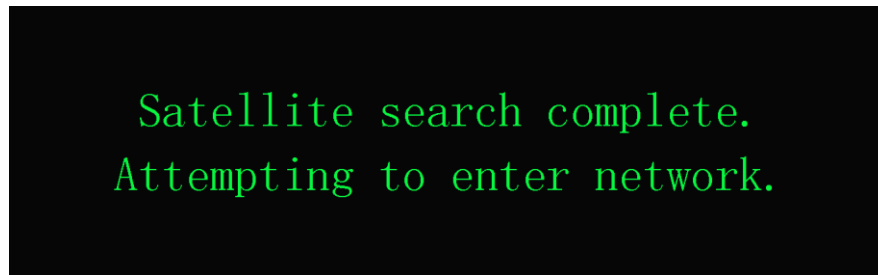
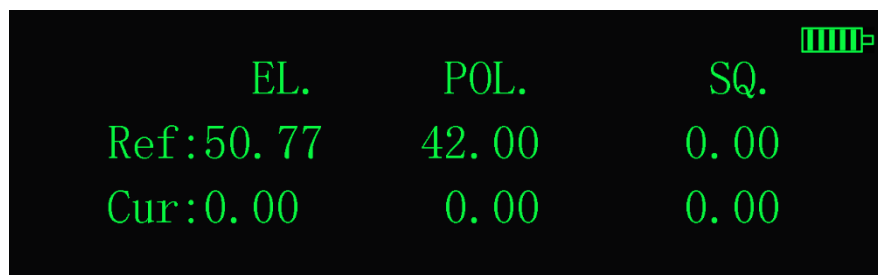

Figure 5-25 Prompt for Satellite Completion
Figure 5-26 Signal Quality Display
1. After satellite alignment is completed, BUC is enabled automatically, as shown in Figure 5-25. After successful network access, the network can be used, as shown in Figure 5-26.